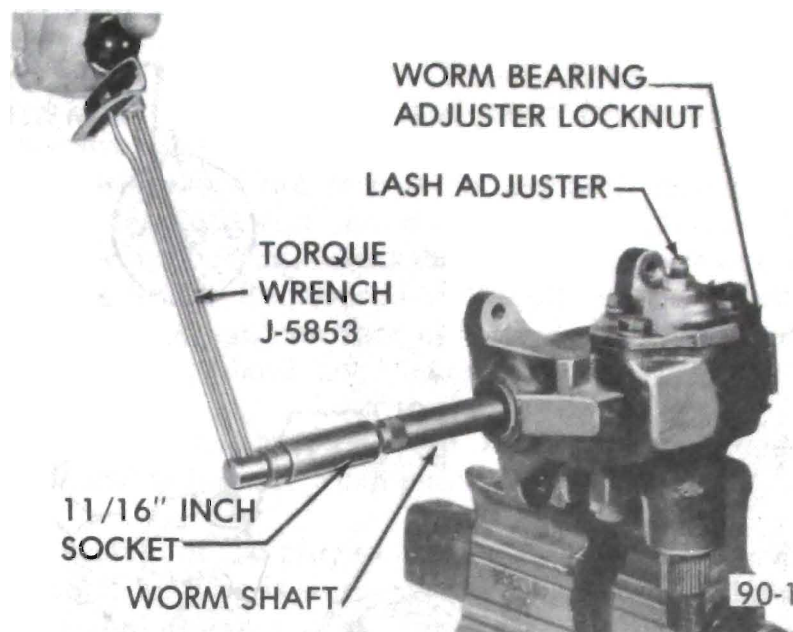

Figure 90-3 Checking Adjustments on Bench
2. Attach inch-pound torque wrench (J-5853) to worm shaft and rotate shaft to extreme right or left position. See Figure 90-3. Never turn the wheel hard against the stopping point in the gear, as damage to the ball nut assembly may result.